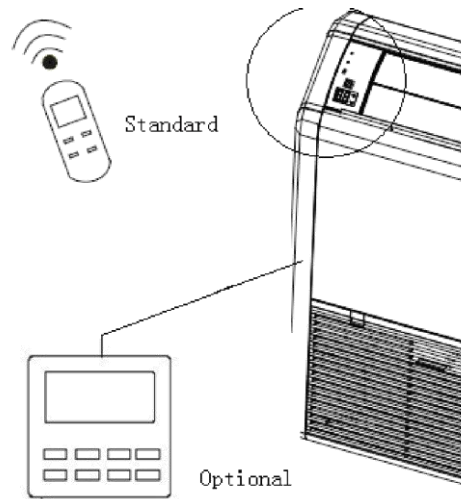

Fig. 5.4.2
- (6) Both IDU and wired controller are equipped with signal receiver, and available for remote control respectively. (Fig. 5.4.2)